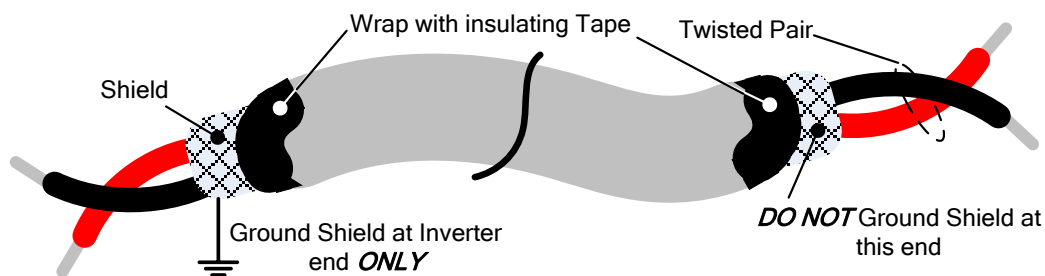

Fig. 3.17.1 Shielded Twisted-Pair
- (1) Separate the wiring for control circuit terminals from main circuit wiring for terminals (R/L1, S/L2, T/L3, U/T1, V/T2, W/T3).
- (2) Separate the wiring for control circuit terminals R1A-R1B-R1C (or R2A, R2C) (Relay outputs) from wiring for terminals ① - ⑧, A01, A02, GND, DO1, DO2, DOG, +10V, (-1-V), AI1, AI2 and GND wiring.
- (3) Use shielded twisted-pair cables (#24 - #14 AWG / 0.5 - 2 mm²) shown in Fig. 3.17.1 for control circuits to minimize noise problems. The maximum wiring distance should not exceed 50m (165 ft).